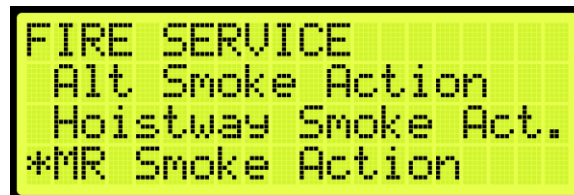

Figure 588: FIRE SERVICE Menu – MR Smoke Action
- From the FIRE SERVICE menu, scroll and select MR Smoke Action (See Figure 588).
2. From the FIRE SERVICE menu, scroll and select MR Smoke Action (See Figure 588).